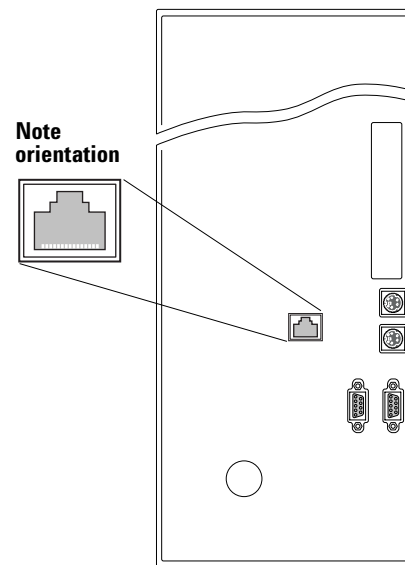

Figure 13 New version back panel with installed LAN cable connector (external view)
- 3 Orient the LAN adapter as shown in Figure 13 and push it straight into the hole until it locks into place. If properly done, you should not be able to pull the adapter back out of the hole.